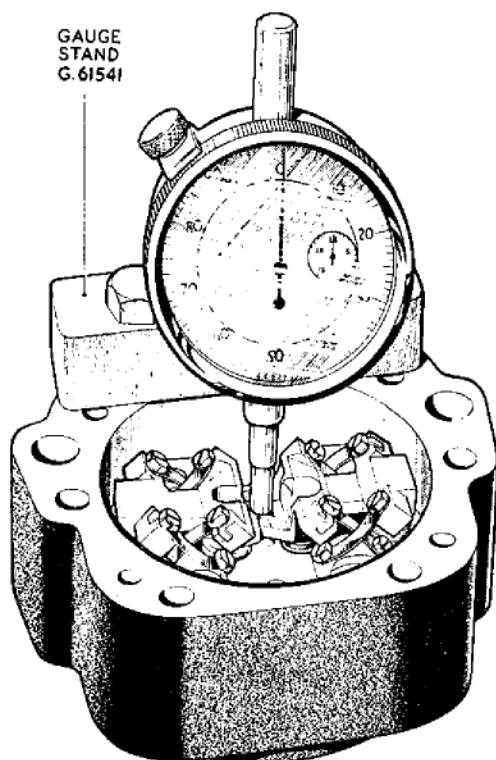

Fig. 12. Checking the lift of the rocker levers
97. Temporarily fit and secure the rocker lever assembly into the amplifier housing, mount the bar block of gauge G.61541 (fig. 12) across the face of the housing and secure with two slave nuts and bolts. Locate the plunger of the dial indicator to contact the extreme point of a rocker lever tip; then depress the lever fully to the stop and allow the plunger to follow. Set the dial indicator face to a datum point and release the rocker lever, check that the reading is between 0.025 in. and 0.045 in.